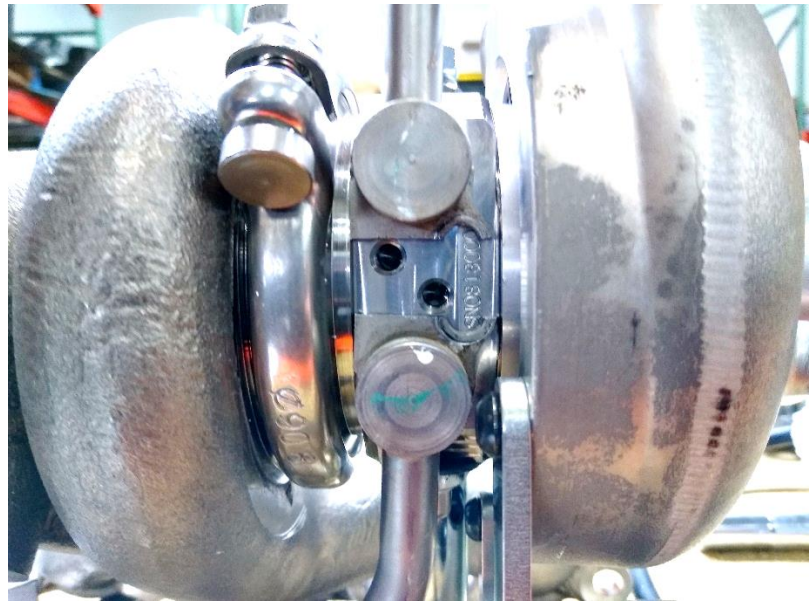

Figure 4
Step 8: The OEM hard coolant line attachment bracket needs to be cut it in the center of the 2 cooling ports (See Fig. 4)